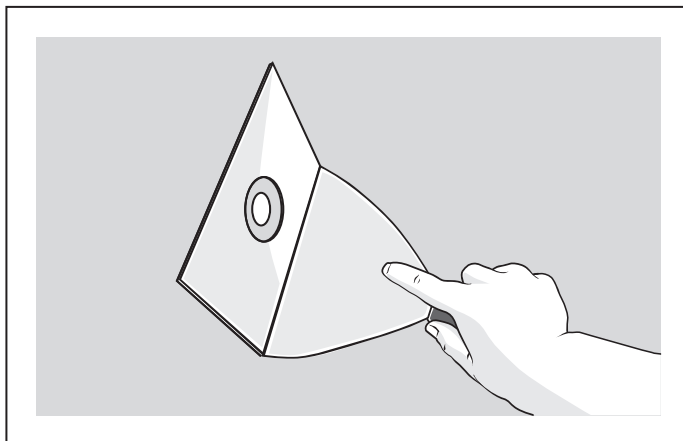

FIGURE 12 FIX BASE COAT APPLICATOR OVER EPOXY FILLED SCREW HEAD
7. Apply James Hardie™ base coat over epoxy using the base coat applicator. See Figures 12, 13, and 14.